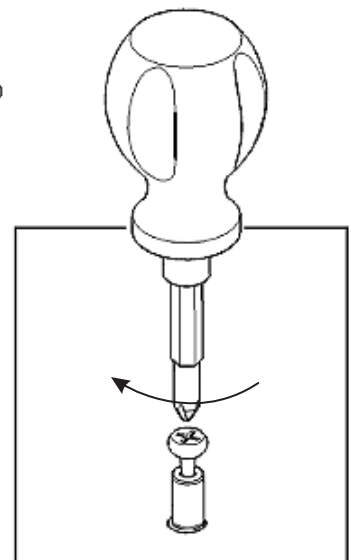

Figure 1
Put Cam Lock Screws into the pre-drilled holes of Top (A), (K) Side Panels (C), (D), (M), (N) and Base (O) and tighten. (see Figure 1)
(Figure 1)
Attach R2 to R3 and R4 using Wood Screws (long), tighten halfway. (see Figure 1)